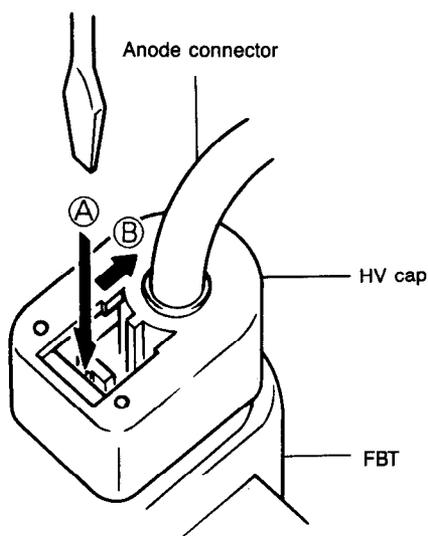

Fig. 6
1. Insert a small flat-bladed screwdriver (adjustment screwdriver : 5-7 mm wide and 0.2-0.3 mm thick) into section (A) in Fig. 6 then push it in the direction of arrow (B). The lock will release with a click. (The state in Fig. 8-(1) will change to that in Fig. 8-(2).)